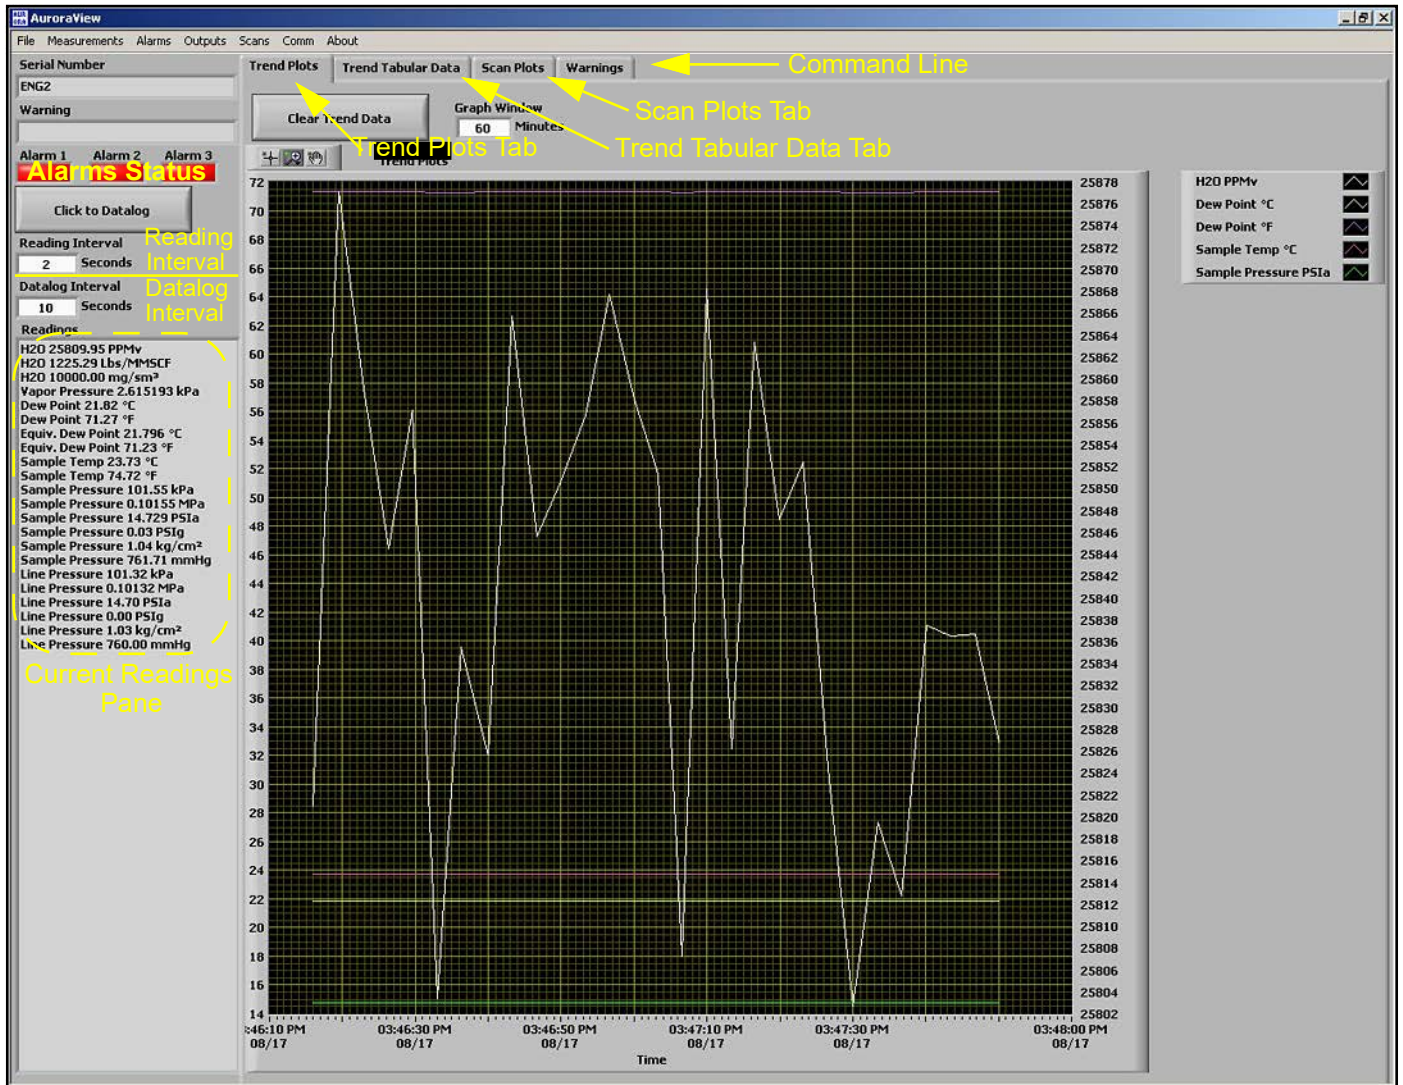

Figure 29: AuroraView Main Screen
2. AuroraView boots up and displays a screen similar to Figure 29 below.